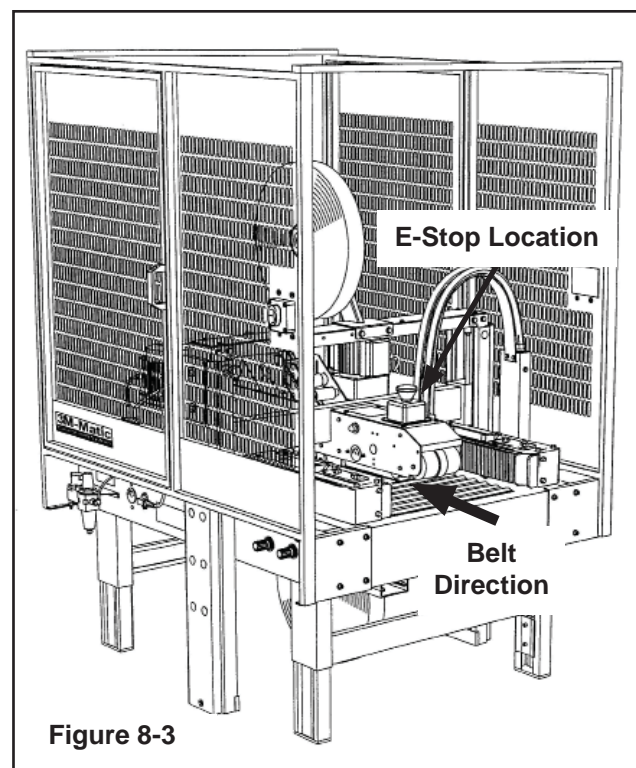

Figure 8-3
- Check the rotation direction of the drive belts (**Figure 8-3**).